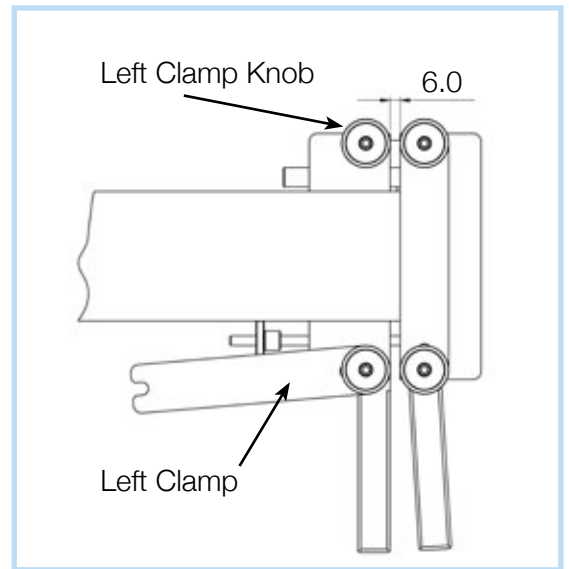

Figure 1
2. Loosen the left clamp knobs and swing the clamp out to permit positioning the belt (See Figure 1).
3. Open the pliers to form a gap of 6 mm (1/4") (See Figure 1).
4. Set one belt end snug against the right clamp (A in Figure 1). Swing the left clamp into position and tighten the knobs.
1. Remove the 4 clamping knobs (Figure 1 item 1).
2. Remove the two clamps, right and left (Figure 1 items 2 and 4).